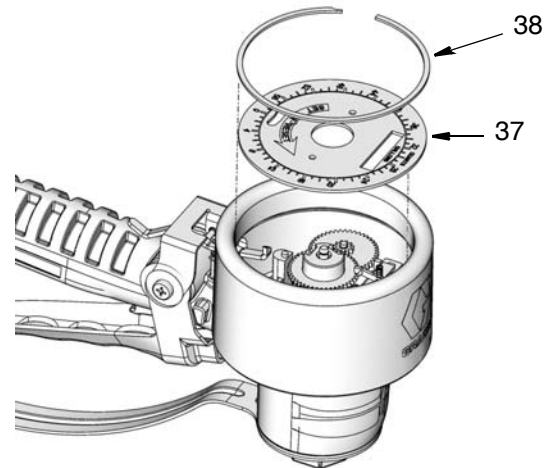

FIG. 28
4. Remove the large retaining clip (38) and then the face plate panel (37) (FIG. 28).